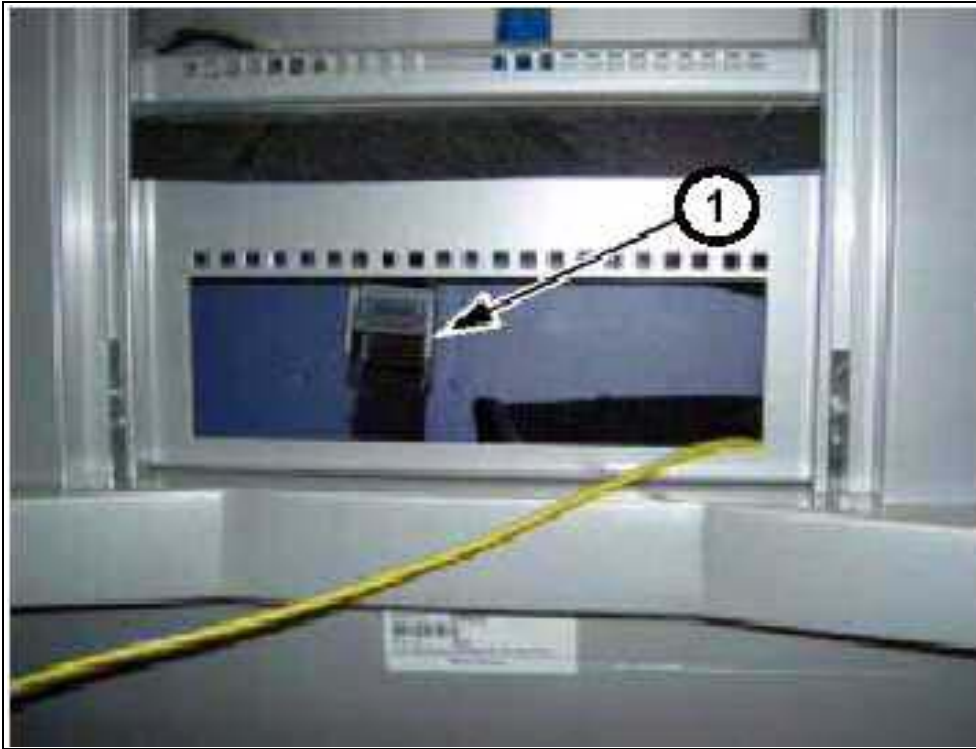

Fig. 41: Replacing the UPS_2
3. Loosen the tension belt (1/Fig. 41 / p. 84) and remove the UPS from the monitor trolley. Side covering was already removed in (Fig. 41 / p. 84).